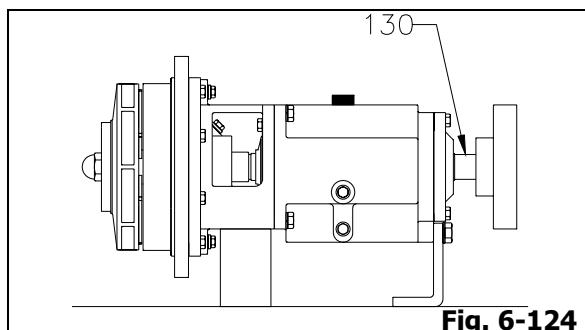

Fig. 6-124
- Install coupling to shaft (130) until coupling hub reach the hub location marking which has been made on shaft (130) during disassembly (Fig. 6-124).